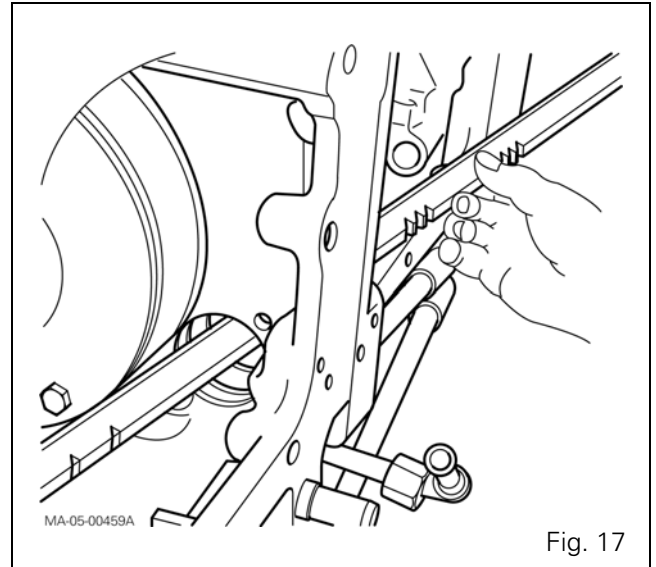

Fig. 17
61. If necessary, remove the locking stop (18).
62. Take the selector rail out through the selector cover plate opening by passing it through the Hare / Tortoise cylinder bore (Fig. 17).
- 64.** Refit the selector rail through the selector cover plate opening and the Hare / Tortoise cylinder bore (Fig. 17).